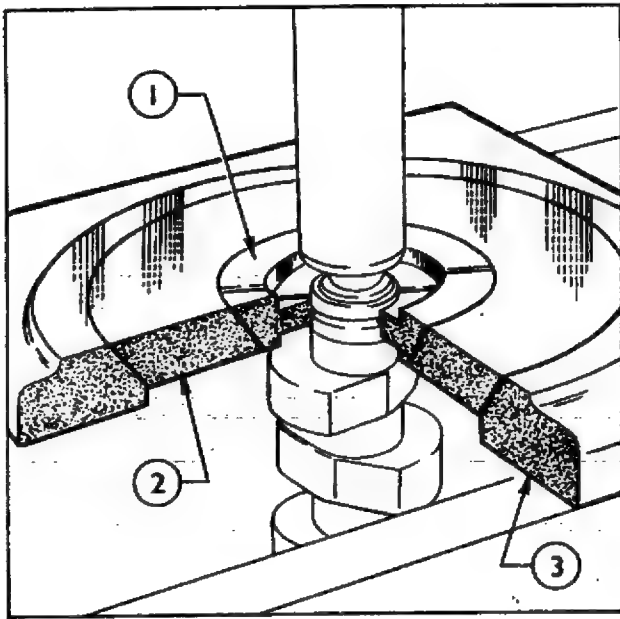

Fig. 23
20. Remove the camshaft bearing inner races using a suitable press, universal taper plate Tool No.370, slave ring Tool No. CT.9056, and adaptors Tool No.CT.6085–1A (see Fig. 23).